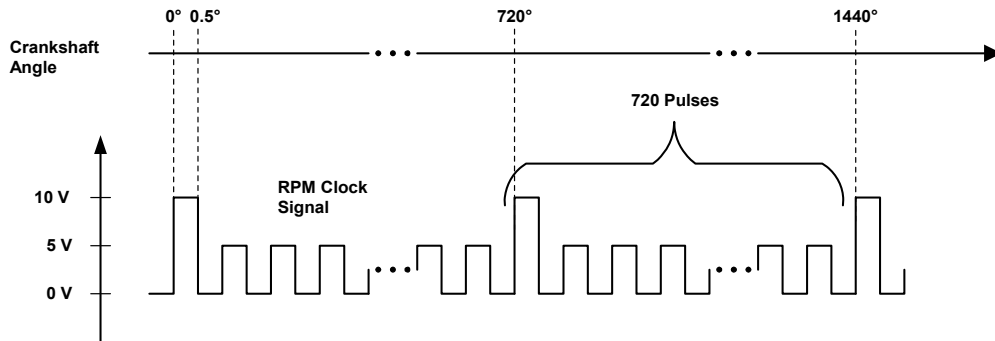

Fig. 9-8 Angle clock signal to synchronize to 0° camshaft and calculate the angle position of the engine
This information is determined by the ES1334.1 from the angle clock signal supplied on the front panel via the "SYNC" input. The angle clock signal (see Fig. 9-8) is generated by an ES1332.1 Arbitrary Signal Generator Board and makes it possible to synchronize to 0° camshaft and calculate the angle position of the engine.
- of the angle clock signal (see Fig. 9-8 on page 146) or